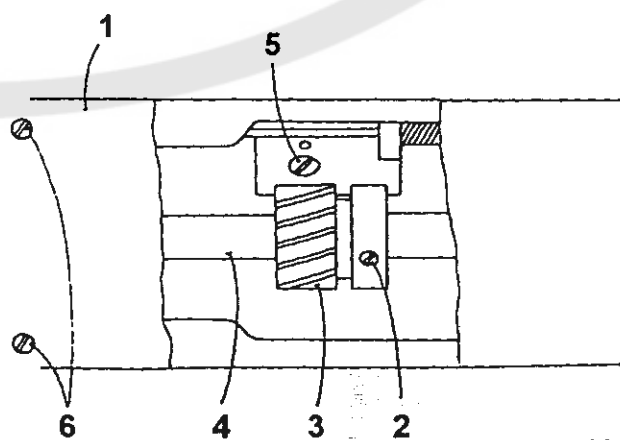
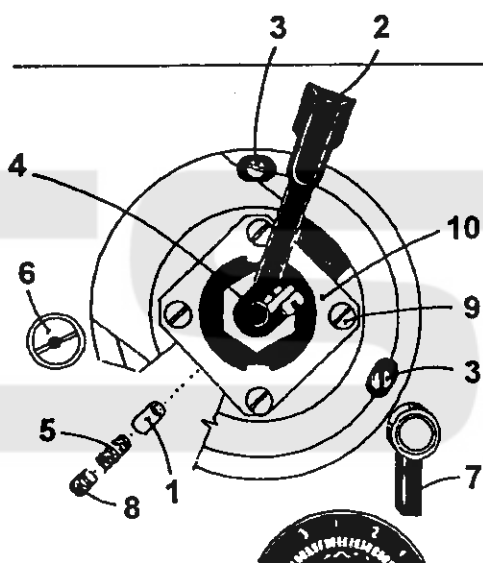
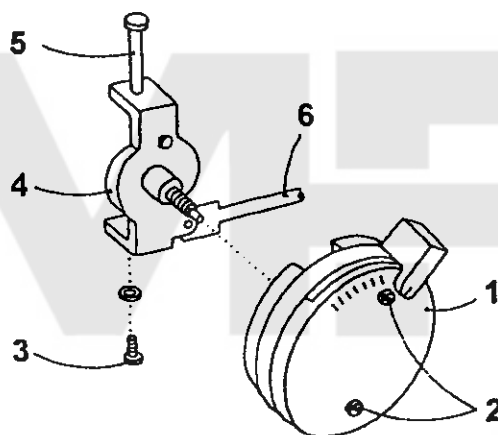

Fig. 11
Fig. 12
Fig. 13
18. To adjust the needle bar lateral movement (Fig. 11)
19. To adjust the control force required for stepless adjustment of the zigzag stitch width (Figs. 12, 13)
For the stepless tilting of the zigzag stitch bracket, the inlay (10, Fig. 12) of the body of the zigzag stitch mechanism contains the braking roller (1) with the spring (5) and with the adjustment screw (8). Turning the screw to the right increases the pressure exerted on the roller and, consequently, the force required to adjust the stitch width. A mechanism actuated by the lever (7) serving to fix the adjusted stitch width must be turned to the left prior to proceeding to the stitch width adjustment which is carried out by the lever (2) whose extreme left position, defined by a stop, produces the zero zigzag stitch width that can be increased up to 10 mm by displacing the lever to the right. The number marking on the cover (1, Fig. 13) shows the approximative stitch width value at each lever position. To adjust the control force, first take the complete zigzag stitch mechanism out of the machine arm column. For this purpose, screw out the two screws (2) from the body of the mechanism, remove the cover (1), screw out the three attachment screws (3, Fig. 12) from the body of the zigzag stitch mechanism, then screw out the securing screw (3, Fig. 13) on the pin (5), remove the pin from the guiding (4), loosen the fixing lever (7, Fig. 12) and take the pin (6, Fig. 13) out of engagement, thus releasing the body of the zigzag stitch mechanism that can be then taken out of the machine arm. For the assembly, proceed inversely.
20. To adjust the tooth play of the zigzag transmission mechanism (Figs. 11, 12)
The tooth play of the zigzag stitch transmission mechanism is actuated by the eccentric pin (6, Fig. 12). To adjust the tooth play, first screw out the four attachment screws (6, Fig. 11), remove the upper cover (1), and loosen the screw (5) located in the lug of the machine arm. By turning then the eccentric pin (6, Fig. 12) adjust the tooth play of the zigzag transmission mechanism, i. e., between the complete cam and the gear wheel (3, Fig. 11) mounted on the upper shaft (4), then lock the adjusted position by thoroughly tightening the screw (5).